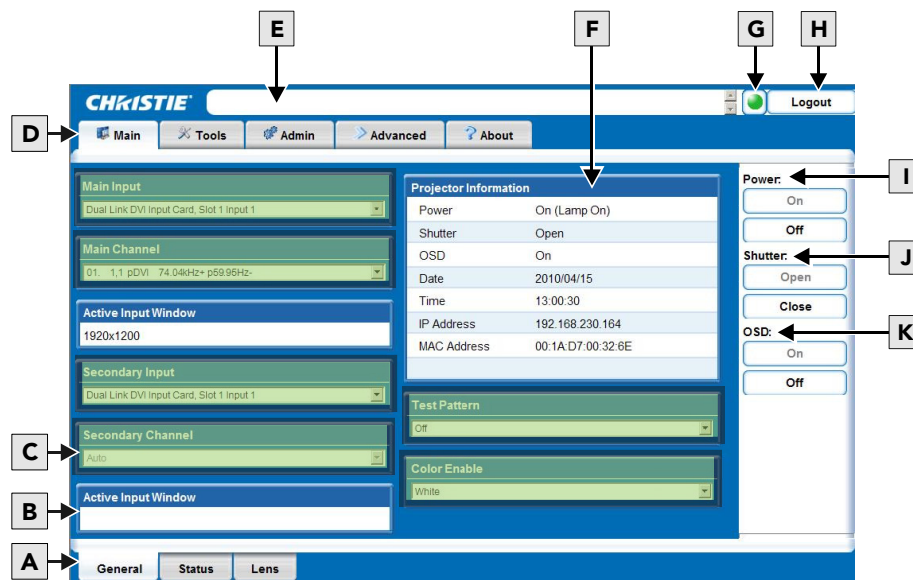

Figure B-3 Main window
4. Click the **Login** button. The **Main** window (see Figure B-3) appears.
The following table describes each area found in the Main window. See *Figure B-3*.
Under the **Main** tab, select the **General** secondary tab to view general information about Inputs, Channels, Projector Information, Test *Pattern*, and Color Enable (see *Figure B-3*). For detailed information refer to *Section 3 Operation*.